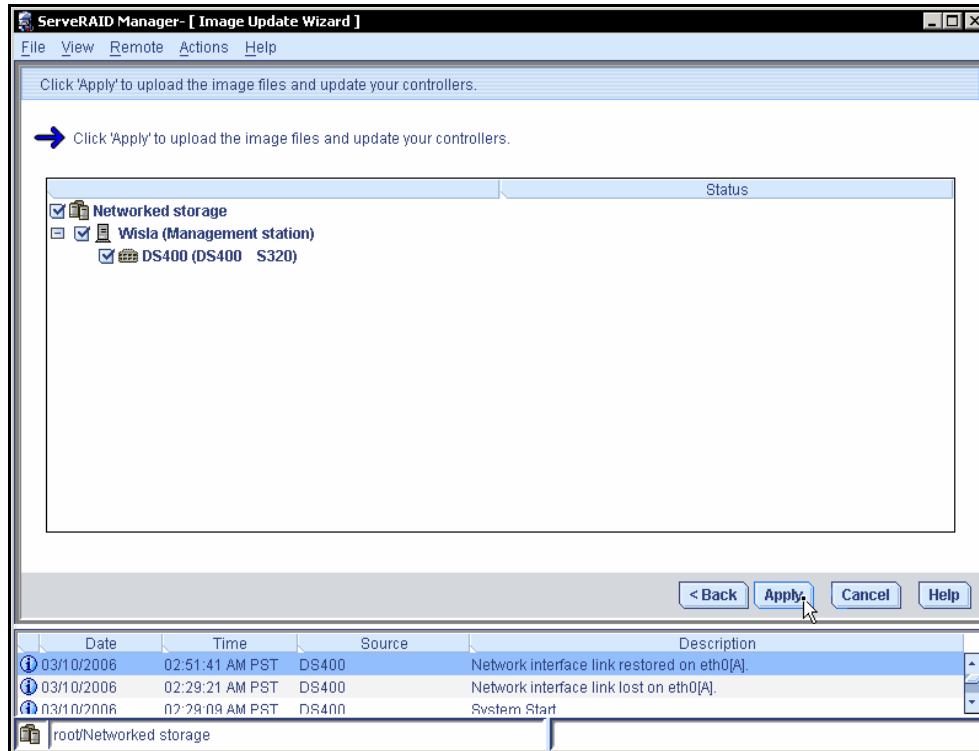

Figure 34 Apply settings
6. In the screen that appears click **Apply** as shown in Figure 34.